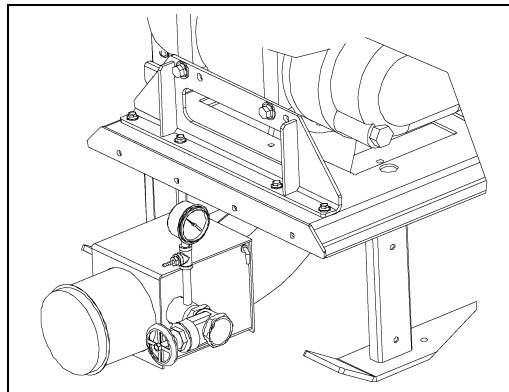

Figure 4P
- Remove 1/4" pipe plug in gate valve pipe. Install gauge assembly and attach air hose. \(See Figure 4P\).